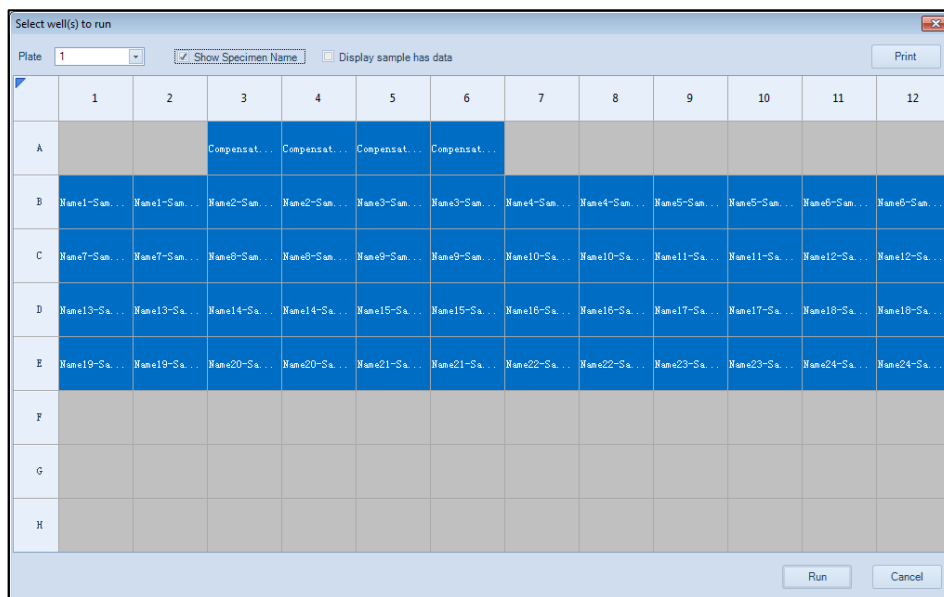

Figure 31. Window for Selecting Wells to Run
- 2 In the **Cytometer Control** panel, click the **Run Plate** button . The **Select well(s)** to run window will open as shown in Figure 31. In the window, select the wells to be collected. Wells selected for collection will be displayed in blue, unselected wells will be displayed in white, and wells that are not available for collection will be displayed in gray. In this experiment, select all of